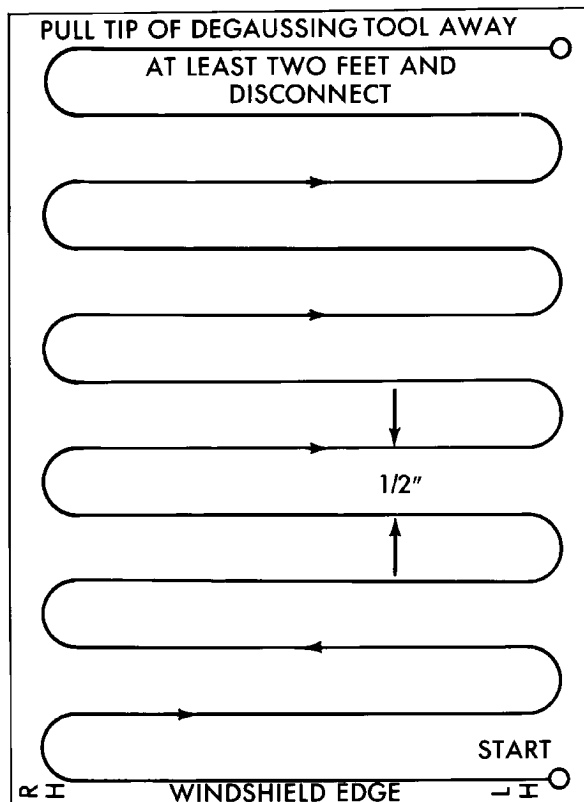

Fig. 2 Roof Demagnetizing Pattern
- (1) Be certain the ignition switch is in the Off position, before you begin the demagnetizing procedure.
- (2) Plug in the degaussing tool, while keeping the tool at least 61 centimeters (2 feet) away from the compass unit.
- (3) Slowly approach the head of the overhead console forward mounting screw with the degaussing tool plugged in.
- (4) Contact the head of each screw with the plastic coated tip of the degaussing tool for about two seconds.
- (5) With the degaussing tool still energized, slowly back it away from the screw. When the tip of the tool is at least 61 centimeters (2 feet) from the screw head, unplug the tool.
- (6) Place a piece of paper approximately 22 by 28 centimeters (8.5 by 11 inches), oriented on the vehicle lengthwise from front to rear, on the center line of the roof at the windshield header (Fig. 2). The purpose of the paper is to protect the roof panel from scratches, and to define the area to be demagnetized.